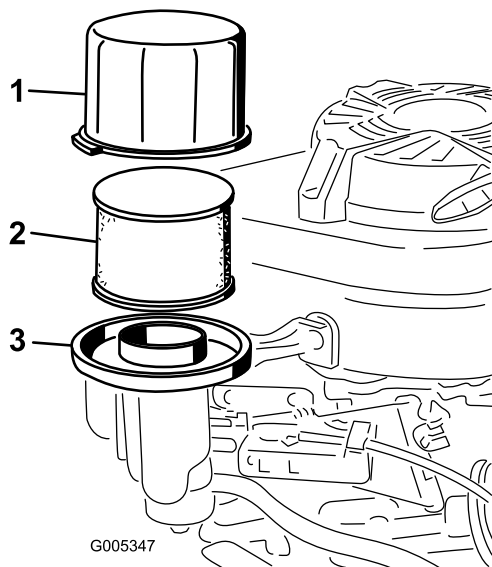

Figure 21
3. Remove the cover and clean it thoroughly (Figure 21).
4. Remove the foam pre-cleaner and the paper-air filter from the air-cleaner base (Figure 21)